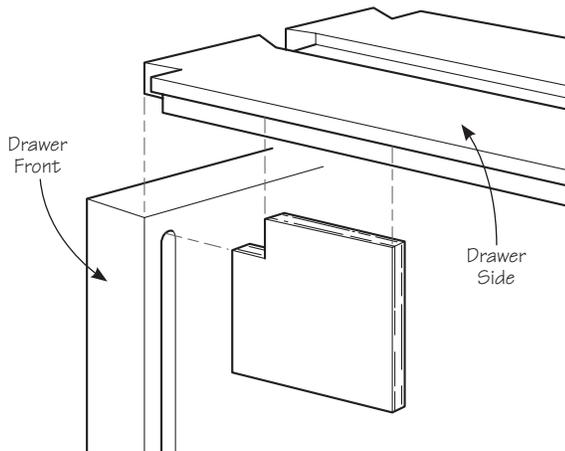

Figure 3:
- Lay out and cut the half-blind dovetails for the three drawers. Cut the tails on the sides first, then scribe the tails onto the drawer fronts with a sharp knife. Use a scrap of $\frac{1}{8}$ " plywood with a notch cut out of one corner pressed into the rabbet on the drawer side and into the groove in the drawer front to accurately align the two pieces (see **Figure 3** below). Cut the pins.